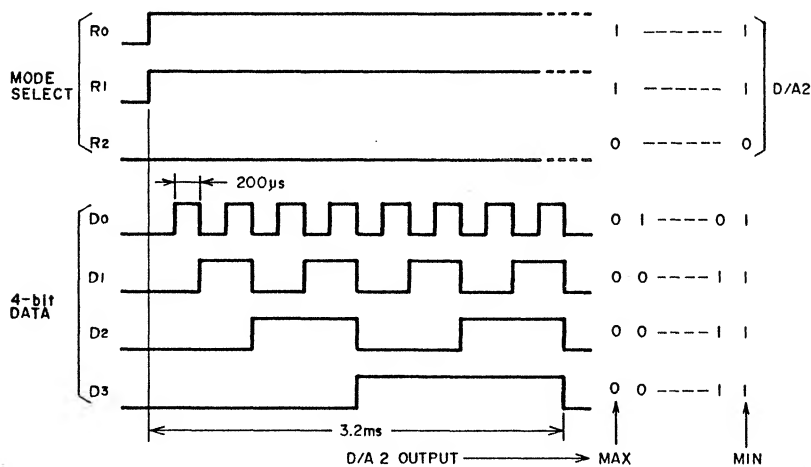

Fig. 12-8 Comparative Mode Data Format
(8) After the reset out becomes Low in (6) above, if the comp in becomes Low within 400 ms, then it switches to comparative mode (refer to figures 12-8 and 12-9). This comparative mode checks if the recorded level is within the acceptable limits or not.
(9) In the comparative mode, D/A 2 is selected on U603 by the mode select signal, and the 4-bit data is converted to analogue (DC) signals by D/A 2, and applied to pin 3 of the U607 comparator.
(10) In the comparative mode, the values for VCA, EQ, and D/A 1 in U603 are maintained at the same as they were during leader tape detection mode by the hold condenser.
(11) The 4-bit data changes from 0000 to 1111, changing the D/A 2 output voltage from maximum to minimum.
(12) When 0000 4-bit data is detected, the potential of pin 3 exceeds that of pin 2 on U607, changing comp in from Low to High.
(13) In response to the changing 4-bit data, the potential of pin 3 of U607 falls in a step form, and when it drops below that of pin 2